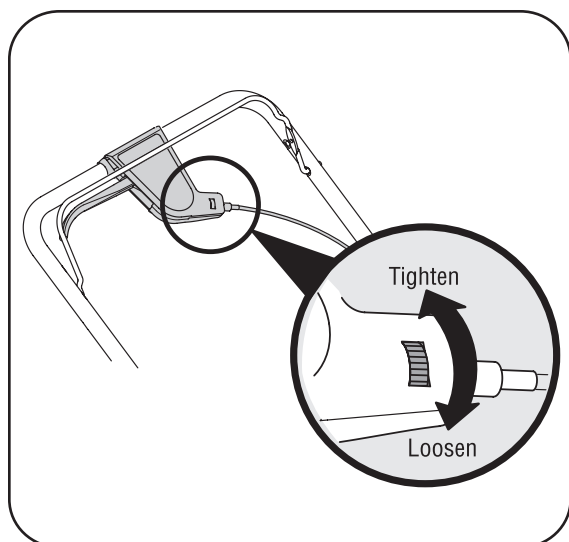

Figure 3-8
8. The adjustment wheel is located in the drive control handle housing and is used to tighten or loosen the drive belt. You will need to adjust the drive control if the mower does not propel itself with the drive control engaged or if the mower's wheels hesitate with the drive control engaged. If either of these conditions occur, rotate adjustment wheel clockwise to tighten cable or counterclockwise to loosen the cable. See Figure 3-8.